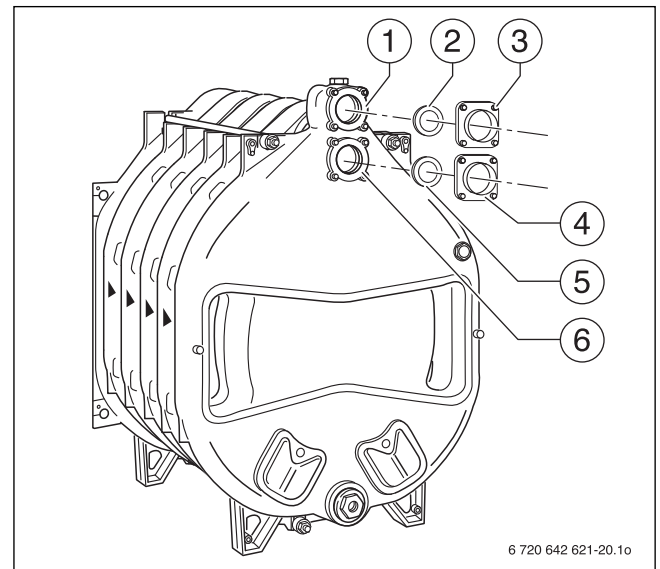

Fig. 27 Fitting a flange
The weld neck flange is fitted to the upper boiler hub (Fig. 27, [6] – return connection) if the return is connected at a later stage.
The weld neck flange and flat gasket are shown (Fig. 27, [4 and 5]).
- ▶ The supply connection flange (Fig. 27, [3]) with flat seal (Fig. 27, [2]) is required for connecting the supply at a later stage (Fig. 27, [1]).